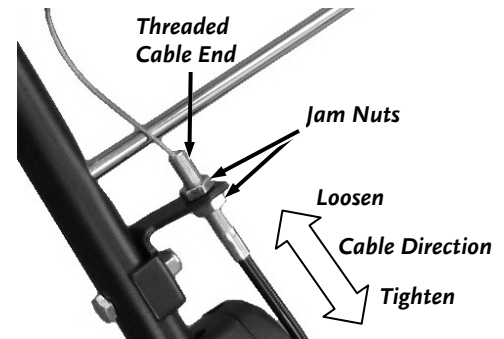

Figure 42
2. Adjust the Jam Nuts towards the end of the Cable to tighten the Belt tension or towards the sheathing of the Cable to loosen the tension of the Belt (*Figure 42*).